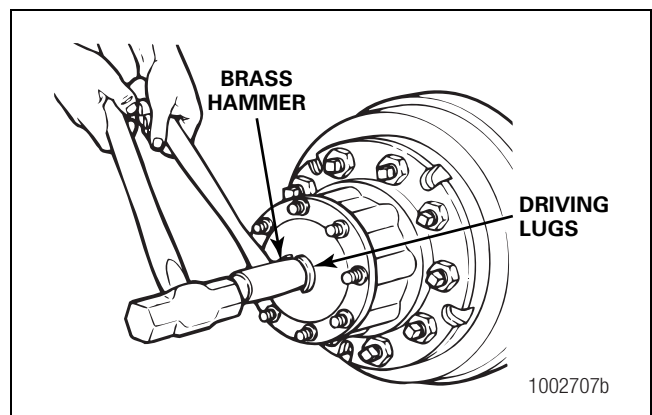

Figure 3.1
2. Hold a 1-1/2-inch diameter brass drift or brass hammer against the center of the axle shaft, inside the round driving lugs. Figure 3.1.